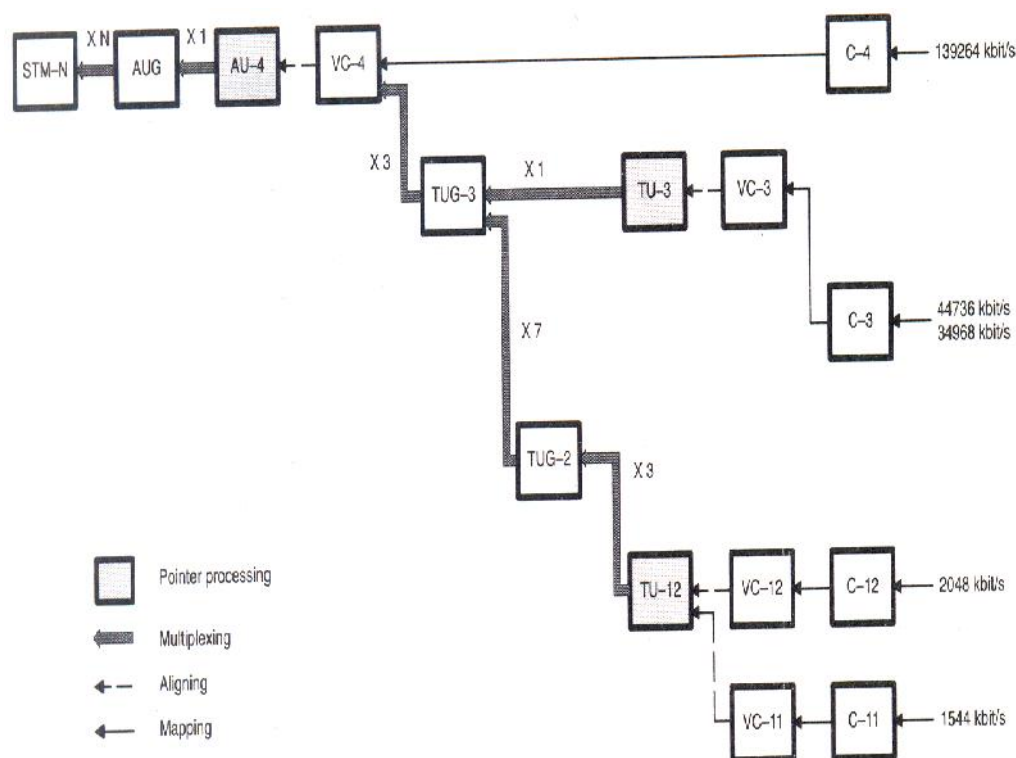

Figure 1.1 SDH Multiplexing Structure
The SDH multiplexing structure accommodates the mapping and multiplexing of higher and lower order plesiochronous tributary rates into a synchronous signal. The basic synchronous transmission rate is 155.52 M bit/s, which is organized in frames each designated a Synchronous Transport Module (STM - I). Higher bit rates of $N \times 155.52$ M bit/s are obtained by multiplexing N AUGs into one STM— N signal. Fig. 1.1 shows the SDH multiplexing structure.
An administrative unit (AU) comprises a VC-4 together with an AU-pointer. The AU-pointer allows the VC-4 to drift within the STM-1 frame. The administrative unit group (AUG) is identical to the AU-4 in the multiplexing structure described in fig.1.1